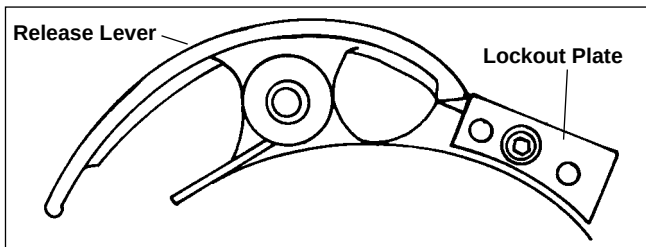

Figure 20 – Adjust to Position Above with Die Head Cocked.
3. Adjust lockout plate so screw is inserted in middle index hole. (Figure 20)